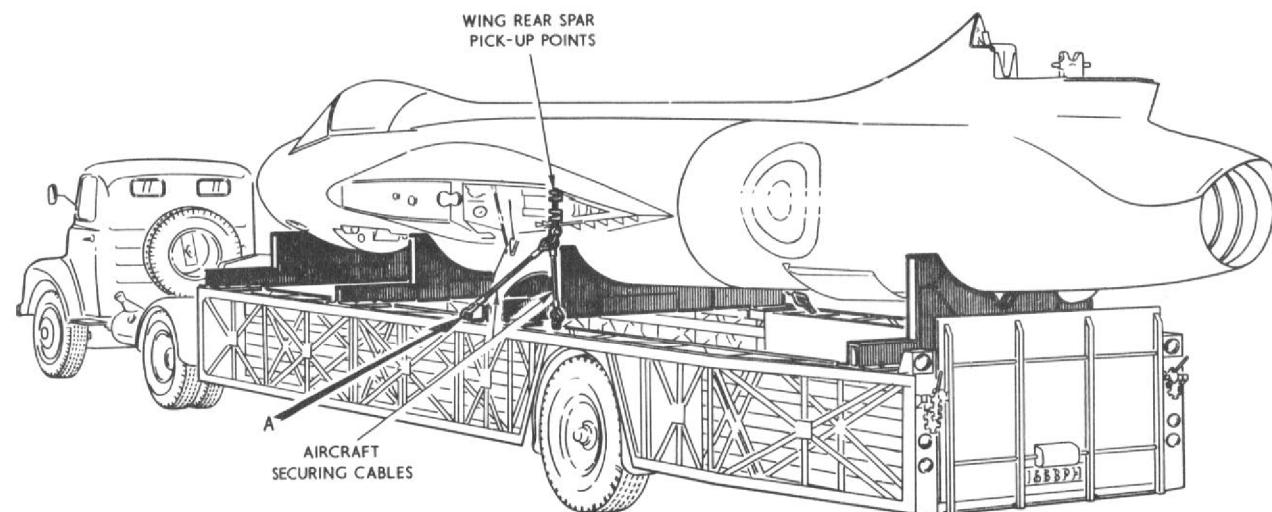

Fig. 8. Loading aircraft on trailer
4. REMOVE THE WINGS, ELEVATOR, ANTI-BUFFET FAIRING, RUDDER AND FIN, SLING THE AIRCRAFT WITH THE SALVAGE TYPE SLING, STEADYING THE FUSELAGE WITH GUIDE ROPES. LOWER THE AIRCRAFT ON TO THE TRAILER WITH THE NOSE TO THE DRIVER'S CABIN, SETTLING THE FUSELAGE ON TRESTLES AT FRAMES 8, 19, 32 AND 52 AS SHOWN ON FIG.8. THE TRESTLES ARE TO BE SECURED TO THE TRAILER TO PREVENT MOVEMENT DURING TRANSIT, LOAD THE REMAINING STRUCTURE ON A SECOND TRAILER.